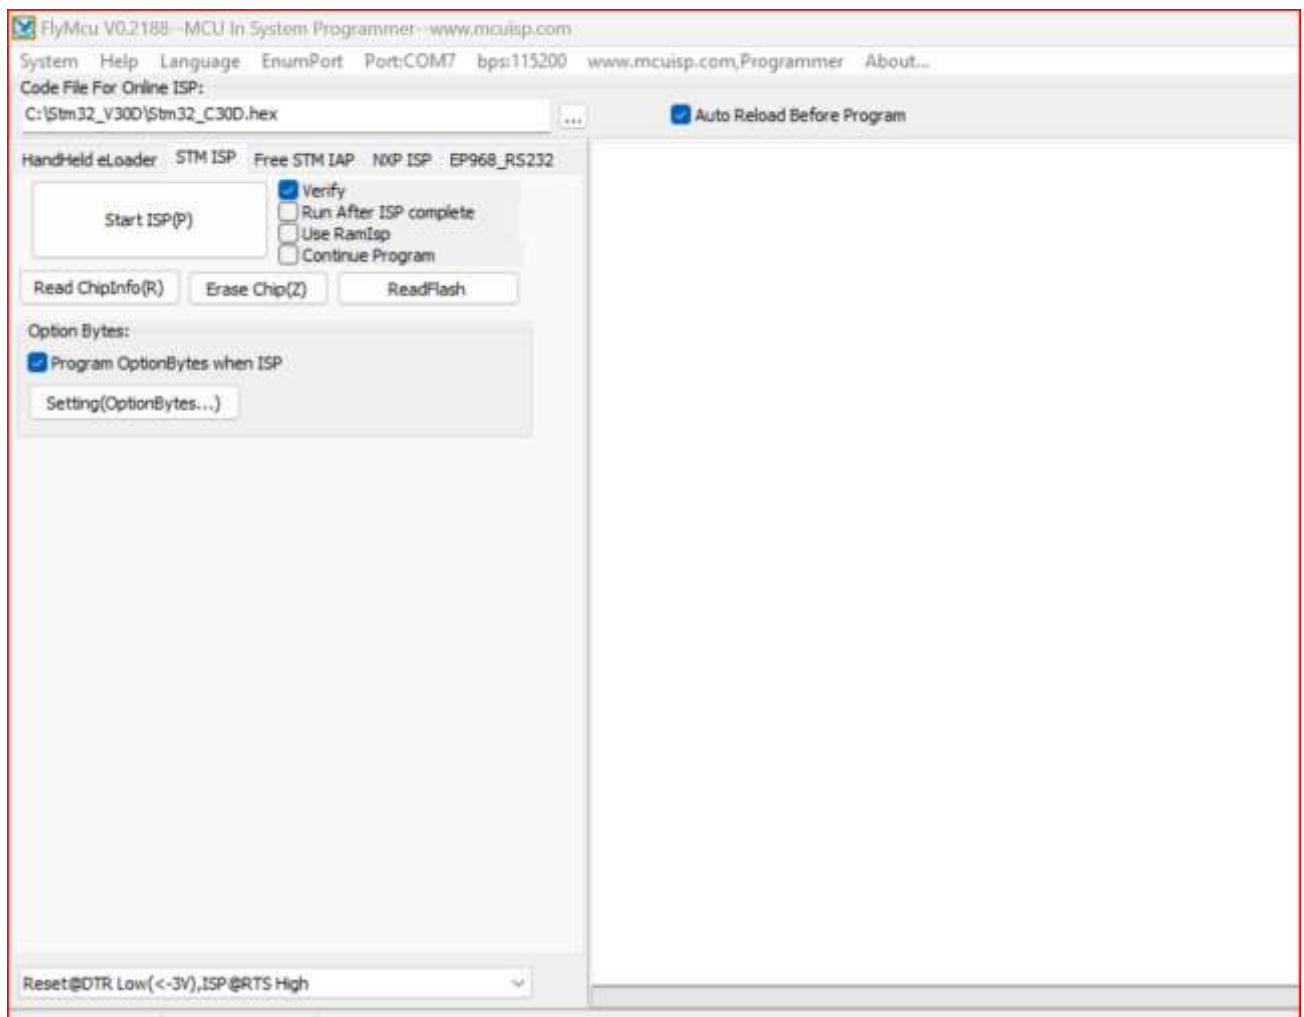

Fig. 1
- 1) Config the setting "Reset@DTR Low (<-3V), ISP @RTS High)" at the bottom of panel. See Fig.1.